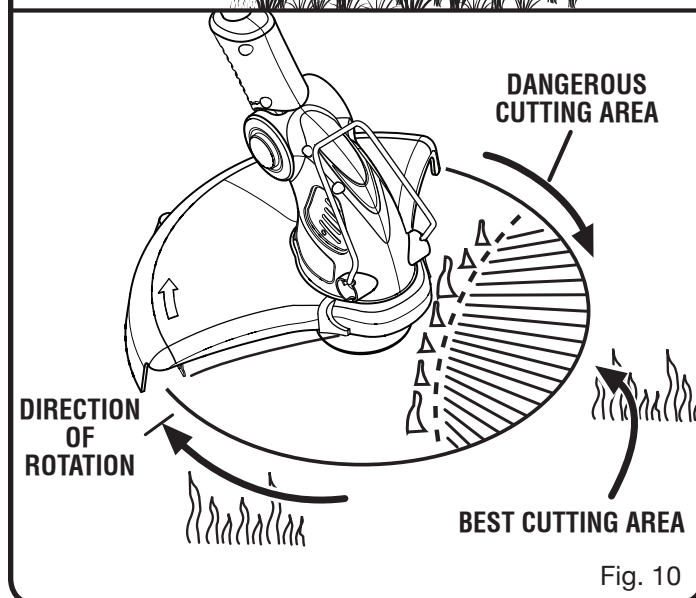

Fig. 10
See Figure 10.
- The string trimmer cuts when passing the unit from left to right. This will avoid throwing debris at the operator. Avoid cutting in the dangerous area shown in figure 10.